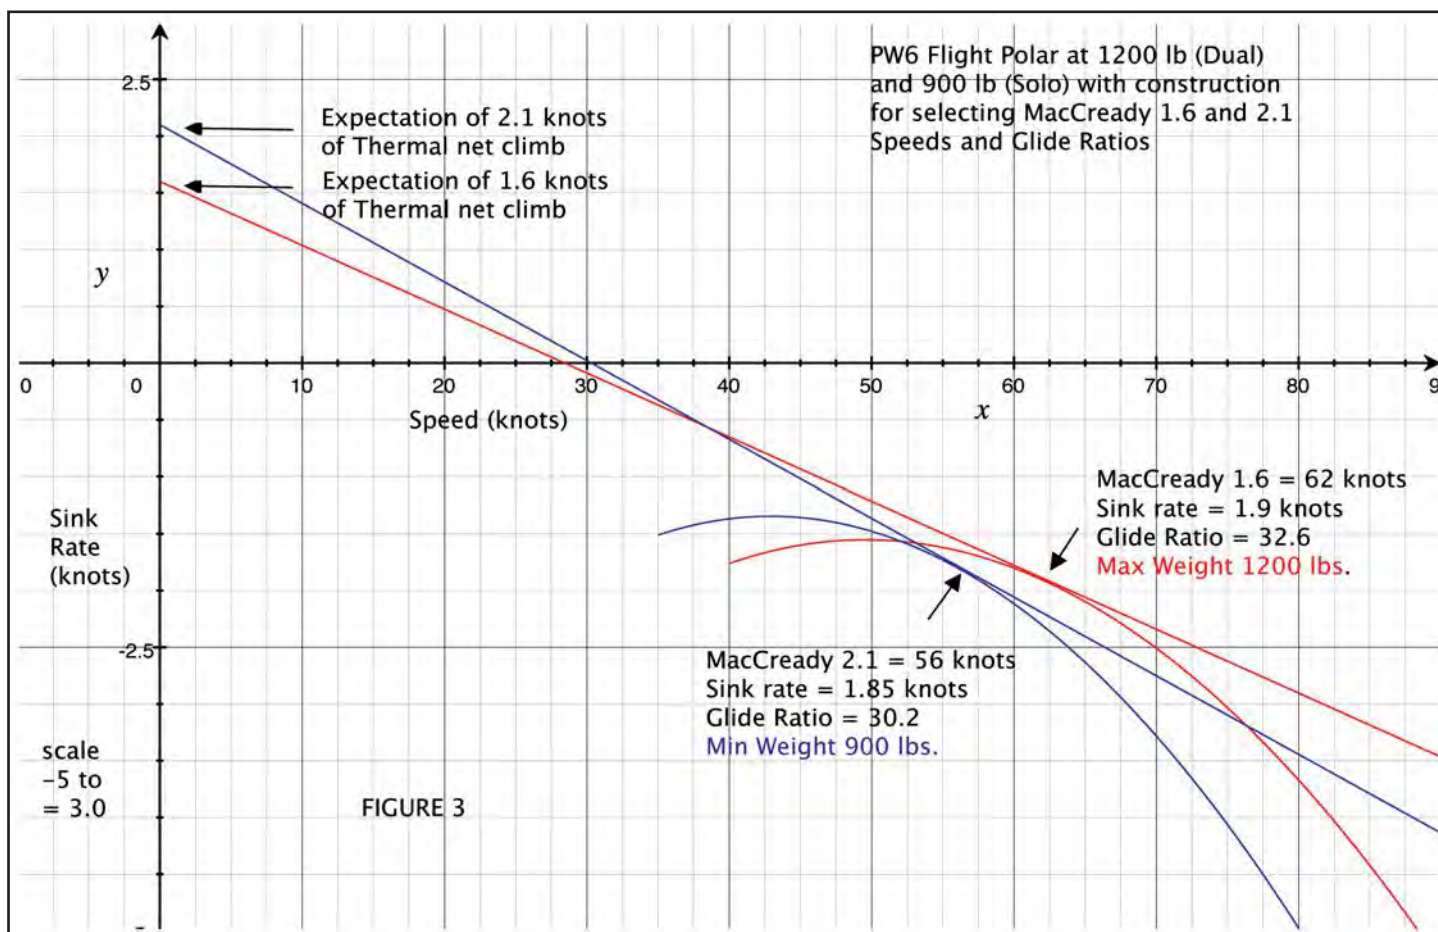

Figure 3
4 kt thermal into a 20 kt headwind is determined by the construction to the Super Wingbat flight polar as shown in figure 3. While the normal inter-thermal MacCready 4 speed for this glider is 70 kt (no wind), the optimum speed to fly for the final glide into a 20 kt headwind is ~77.5 kt. The answer to question 2 is D. ~77 kt.
Figure 3: Lesson learned – To optimize average speed for the final climb and final glide, the net average climb rate in the final thermal defines the appropriate MacCready setting. The final glide STF then is adjusted for the headwind (tailwind) which permits the calculation of the minimum altitude to the depart the final thermal. This can all accomplished by an appropriately programmed onboard computer. While it is quite inappropriate to be plotting tangents to flight polars in the cockpit, knowing one's flight polar and a few key parameter scenarios (i.e. key MacCready speeds and adjustments for final glides in 20 kt headwinds) can go a long way toward generating reasonably accurate speeds to fly for various scenarios when all the hardware fails. The alternative, of course, is to purchase and install a second battery!
i.e. MacCready 2.1 for 900 lb and MacCready 1.6 for 1,200 lb. With the MacCready setting and the respective flight polars, the optimum speed to fly can be calculated. Shown in Figure 3 is the construction to determine the best STF to maximize average speed (no wind).